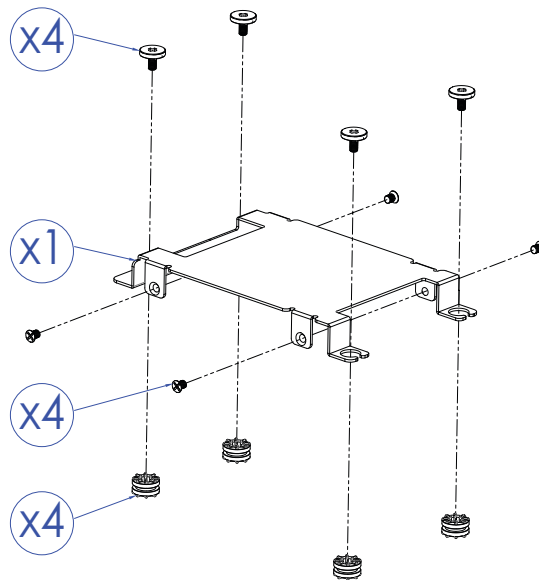

Figure 2.20 Illustration for step 2
2. Assemble 4 screws from both side of HDD bracket to fasten HDD/SSD and blue dampers and damper screws. (Figure 2.20)